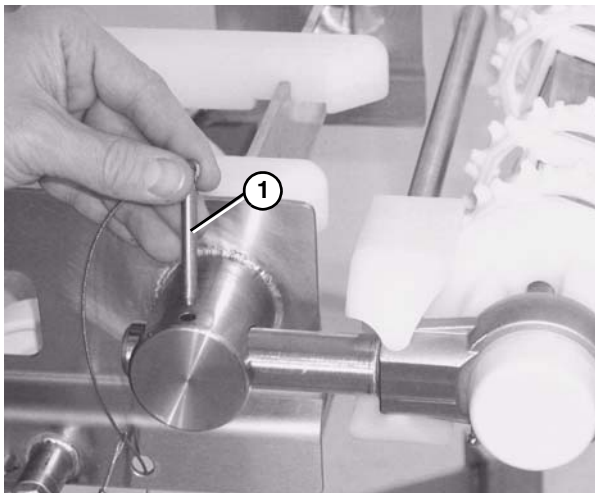

Figure 46
2. Remove the pull pin (**Figure 46, item 1**) on the tension end of the conveyor to release belt tension.